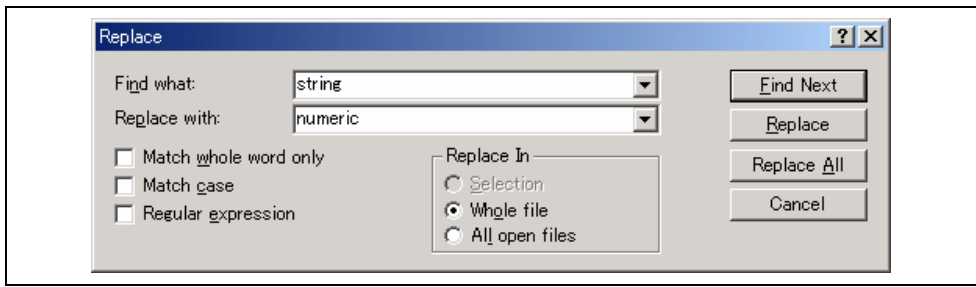

Figure 4.4: Replace Dialog
3. Select [**Edit->Replace...**], press **CTRL+H** or select [**Replace...**] from the editor window's local menu. A replace dialog box will be displayed (figure 4.4).